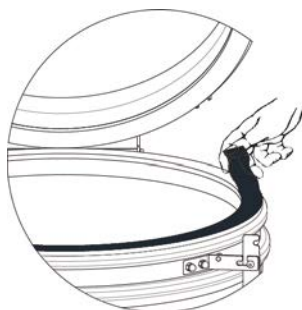

Figure 21
2. Use a paint scraper with enough pressure to scrape around the edges of the dome and base. Remove the remaining gasket material and adhesive as much as possible. Be careful not to press too hard or at a steep angle to avoid damage to the ceramic or glaze. (See Figure 21)
6. Follow same steps as above to replace the gasket on the neck of the dome. (See Figure 21)